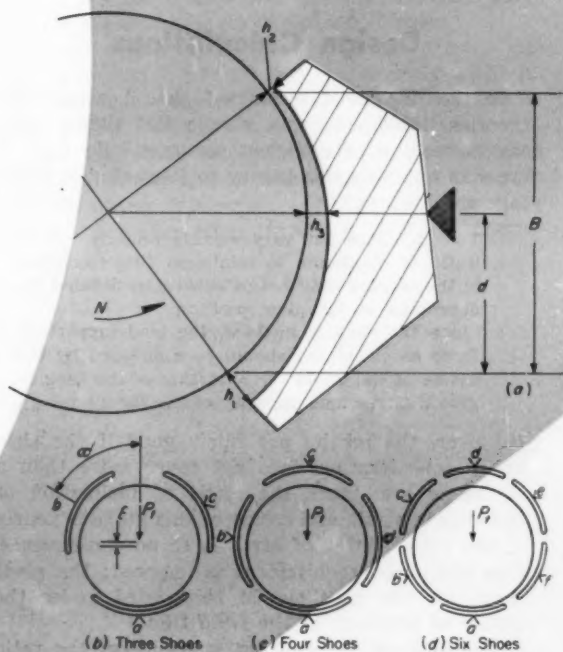

Fig. 1—Basic nomenclature for a pivoted-shoe radial bearing, and variations in number of shoes which can be used.
**P**IVOTED-SHOE or pivoted-pad radial bearings, Fig. 1, have several important advantages over plain journal bearings. Shaft whirl (oil film whirl or oil whip)1 is almost completely eliminated, except at extremely light loads and high speeds. Pivoted-shoe bearings are inherently self-aligning, since the lubricant pressure is automatically "adjusted" by tilt of the shoe to compensate for moderate changes in load. Particles in suspension in the lubricant are quickly flushed out between the shoes; a full journal bearing has difficulty ridding itself of such particles.